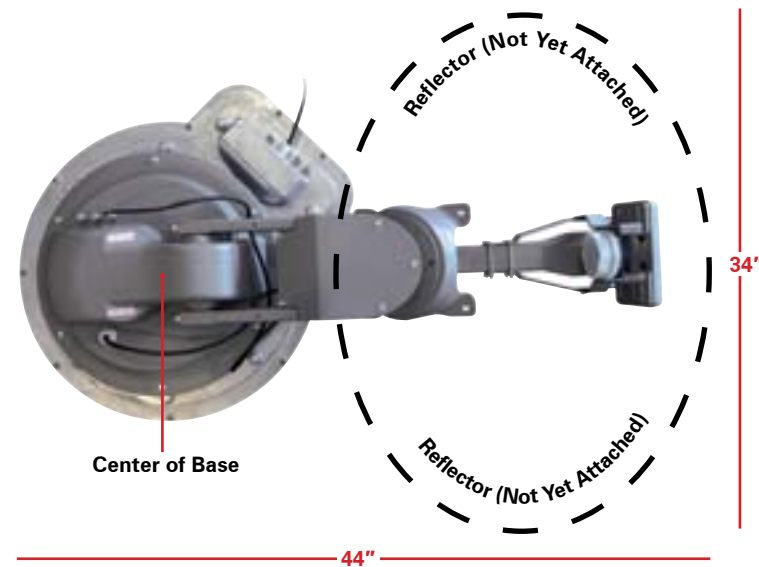

FIGURE 4. Required roof space for antenna
- c. Has a minimum roof space of 44" x 34" for antenna (see fig. 4)